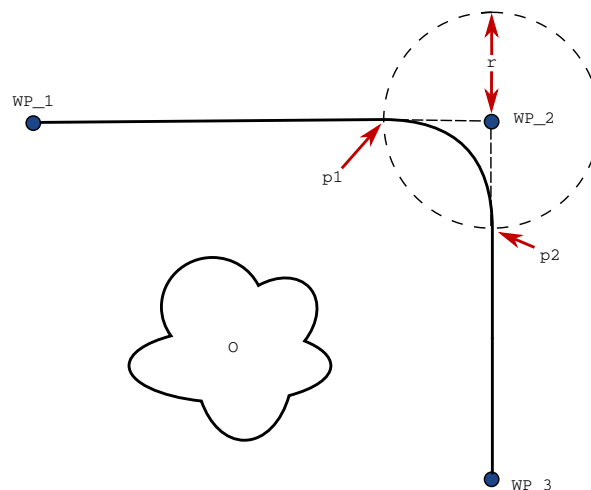

Figure 15.3: Blend over WP\_2 with radius  $r$ , initial blend position at p1 and final blend position at p2. O is an obstacle.
**Blend parameters** Apart from the waypoints, multiple parameters will influence the blend trajectory (see figure 15.3):